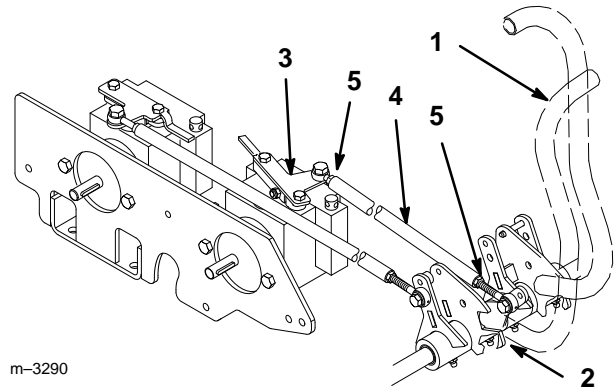

Figure 30
1. Loosen jam nuts on pump control rod (Fig. 30).
2. Push and firmly hold motion control lever against forward stop (Fig. 30).
3. Rotate pump control rod until pump control plate is in the full forward position (Fig. 30). Motion control lever will lift off forward stop.
4. Rotate control rod 1 turn, to lengthen rod, and tighten jam nuts (Fig. 30).